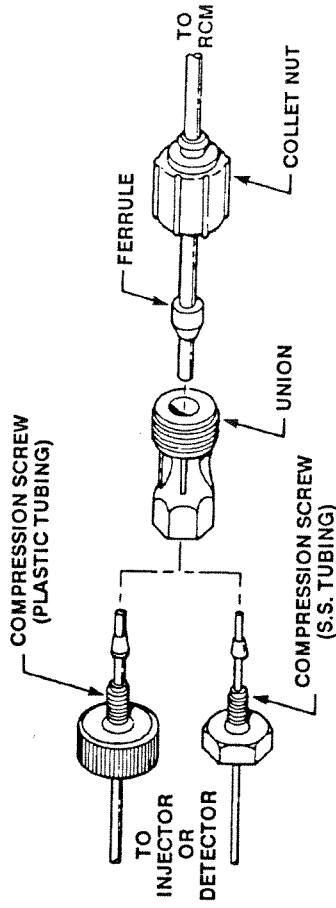

FIGURE 3-2 MAKING CONNECTIONS TO THE INJECTOR AND DETECTOR
1. Connect the union end of the RCM inlet tubing assembly (Figure 3-2) to the injector outlet tubing and finger tighten.